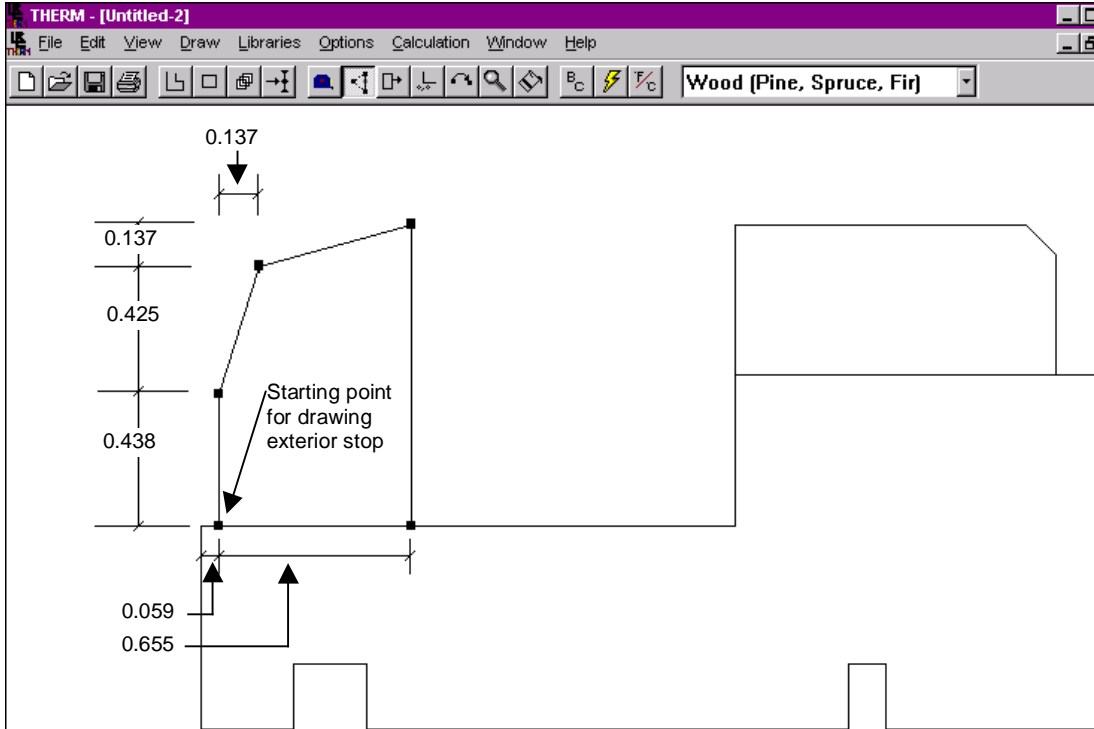

Figure 8-27. Dimensions for the exterior stop.
- We will draw the polygon for the exterior stop in a similar fashion. The drawing in Figure 8-27 contains the dimensions needed to draw this polygon. We will first draw a rectangle, and then insert and move points to make the beveled sides of the polygon.